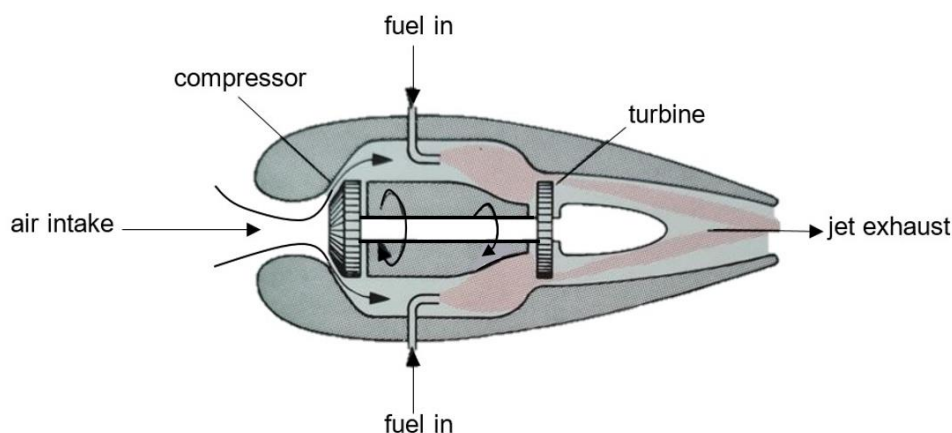

Fig. 7.2
The thrust is the forward force provided by a propulsion system of the plane – often the jet engines in a modern aircraft. A jet engine works by sucking air in the front, compressing it and then mixing and combusting the air with fuel before pushing it out at a much higher speed and higher pressure. Fig. 7.2 is a typical jet engine.
2. Fig. 7.2. Source : (<https://www.basicairstdata.eu/knowledge-center/measurement/in-flight-angle-of-attack-usage/>)